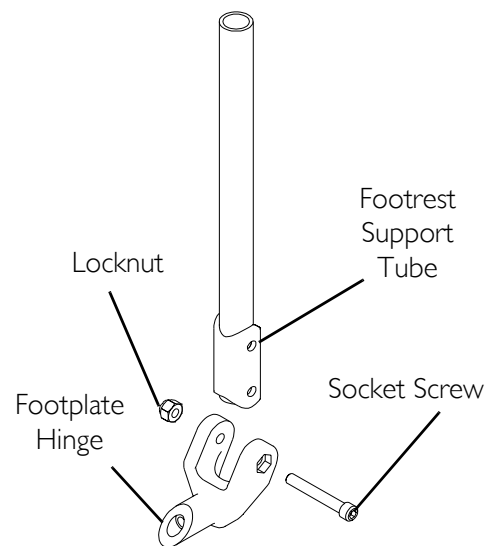

FIGURE 4.6 Installing Adjustable Angle Flip-Up Footplate Hinge
NOTE: For this procedure, refer to FIGURE 4.6.
2. Position the hardware on the footrest support (FIGURE 4.6).